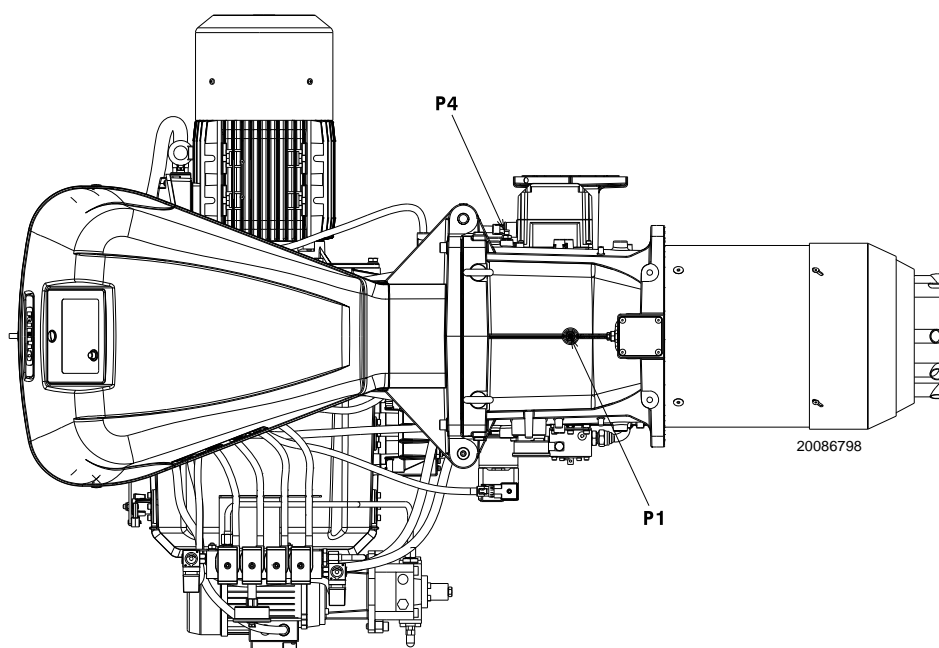

Fig. 32
Gas pressure measured at the test point P1)(Fig. 32 on page 33), with:
- subtract the combustion chamber pressure from the gas pressure measured at test point P1)(Fig. 32 on page 33).
Gas pressure at test point P1)(Fig. 32 on page 33) = 29,4 mbar
To calculate the required gas pressure at test point P1)(Fig. 32 on page 33), set the MAX output required from the burner operation:
- Read, on the right (column 1), the pressure at the test point P1)(Fig. 32 on page 33).
Pressure required at test point P1)(Fig. 32 on page 33).